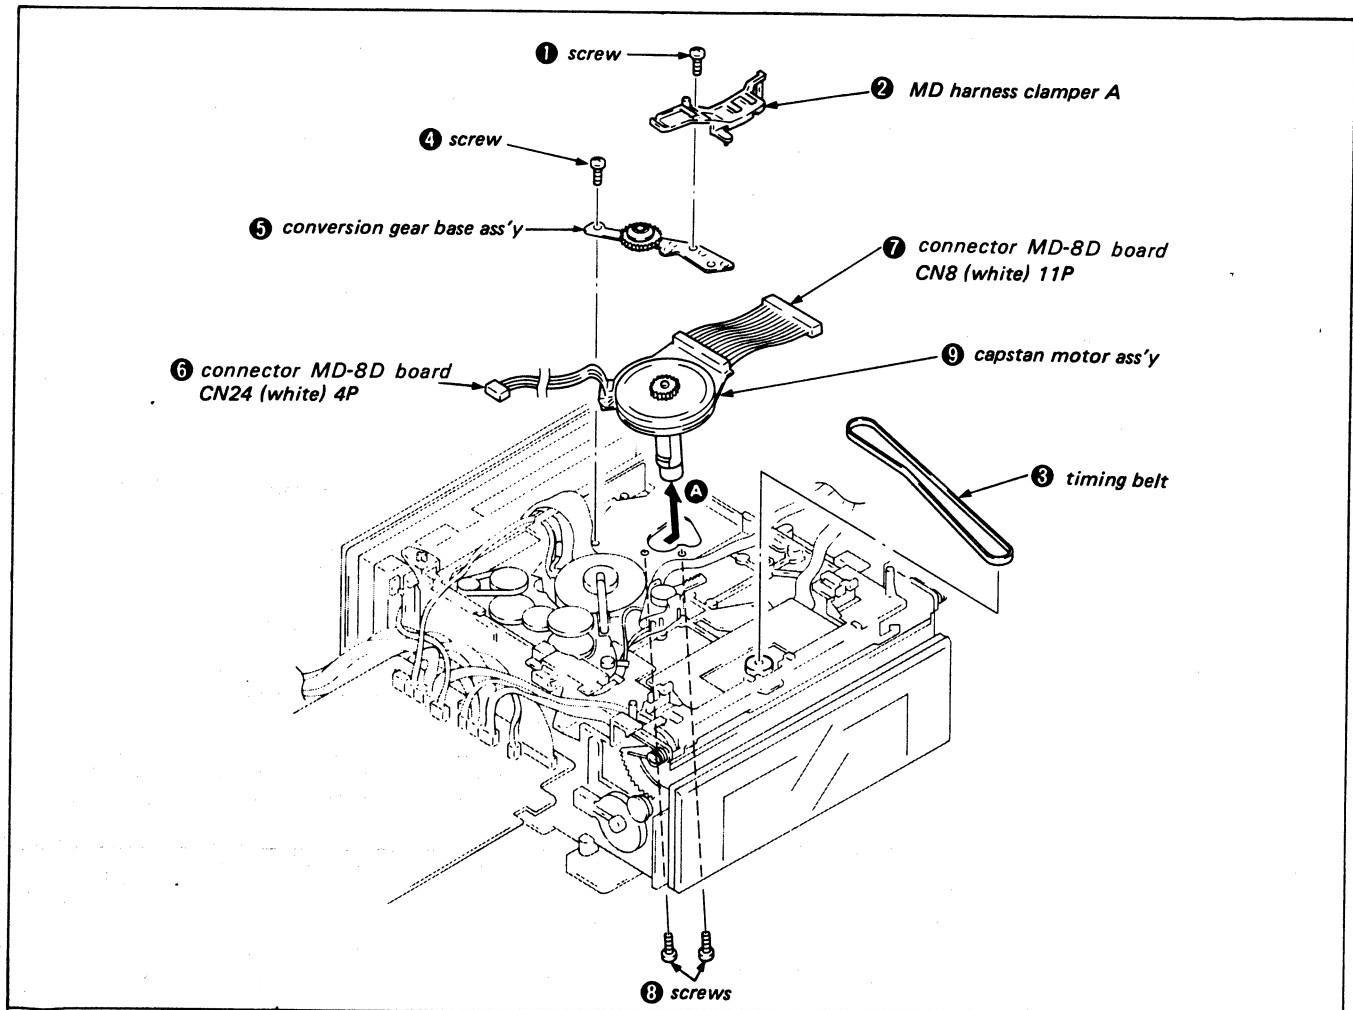

Fig. 3-41.
- 6) Remove connectors ⑥ and ⑦.
- 7) Remove the two screws ⑧ and remove the capstan motor assembly ⑨ in the direction of arrow A. (Fig. 3-41)
- 1) Mount capstan motor assembly ⑨ and tighten the two screws ⑧.
- 2) Connect connectors ⑥ and ⑦.
- 3) Mount conversion gear base assembly ⑤ and tighten screw ④.
- 4) Mount timing belt ③.
- 5) Mount MD harness clamper A ② and tighten screw ①. (Fig. 3-41)